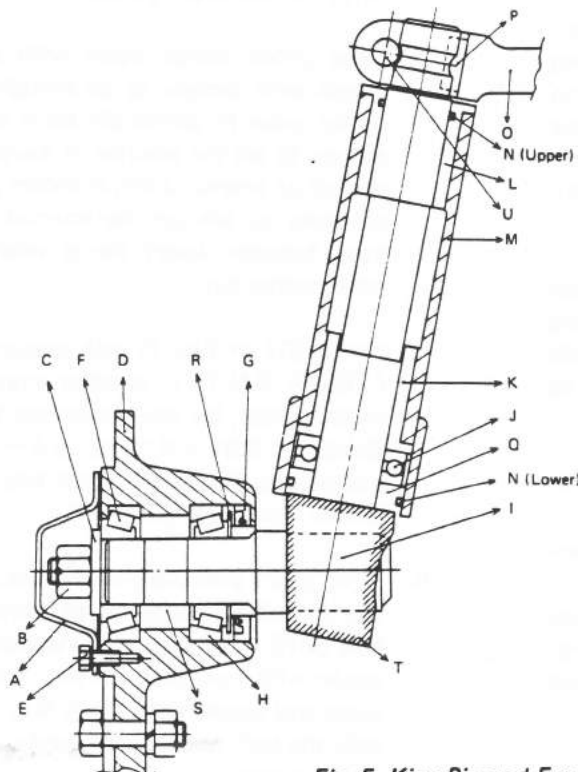

Fig. 5 King Pin and Front Hub
- With a large-size vise, hold beam extension. Take hub cap (A) off, as shown by Diagram Fig. 5, take slotted nut (B) off and pull the entire front hub (D) off from the king pin (I).
- Since the top section of the king pin is connected to the steering lever, release and unloosen bolt (M12 x 70) (U), place wedge in opening of steering lever to widen opening, and pull steering lever upward; then, pull key (P) out.
Though assembling is done in reverse order of disassembling, carefully check and adjust the following points while assembling. Furthermore, refer to Fig. 5 when assembling.